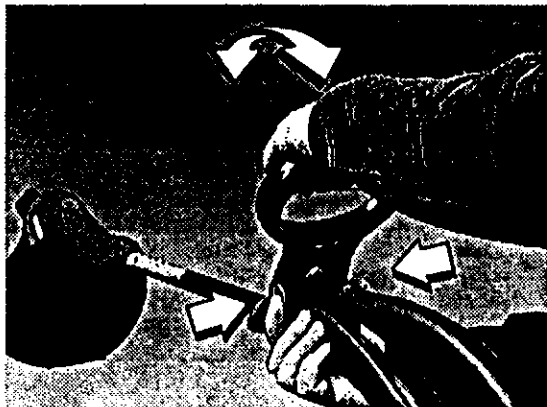

Fig. 6
1. Grip underside of assist handle with thumb and forefinger on either side of the base of the assist handle as shown (Figure 6).